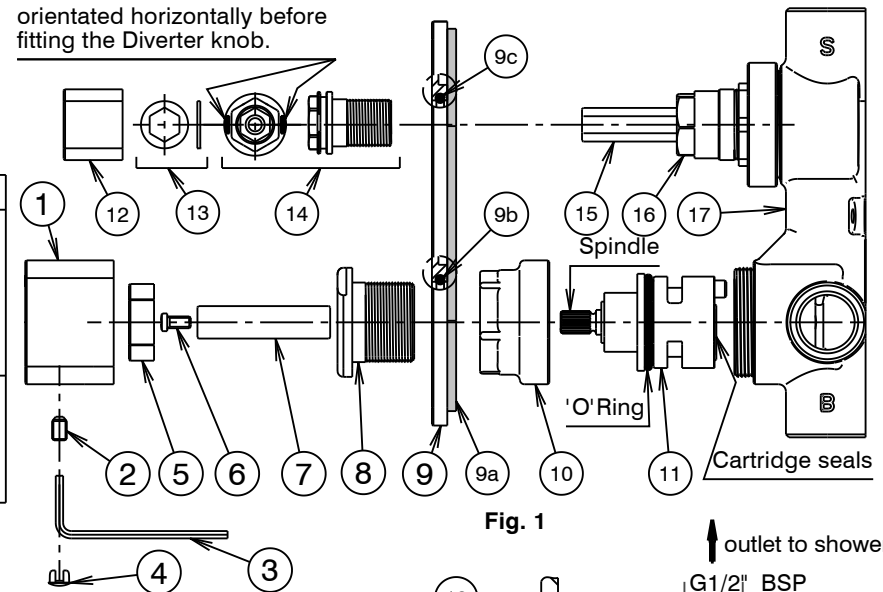

Fig. 1
Installation (Fig. 1 - 4)
* Mixer body (17) must be installed square to wall/tile face to ensure that wall cover plate (9) aligns with tile joints.
- 2) Pass the sleeve (8) through the cover plate (9) & 'O'Ring (9b), place the cover plate (9) over the plastic inserts (7 & 15) then screw sleeve (8) partially into the thread of nut (10) on mixer body (17). Pass the diverter sleeve (14) through the cover plate & 'O'Ring (9c) & screw into diverter nut (16). Carefully tighten the sleeve (8) & diverter sleeve (14) equally to fully compress the foam seal (9a) against the wall/tile face, taking care not to damage the decorative finish. **Important:** The cut-outs in the diverter sleeve (14) must be in horizontal alignment when the sleeve is tightened against the wall cover plate (Fig.1).
Replacing Cartridge (Fig. 1, 2 & 3)